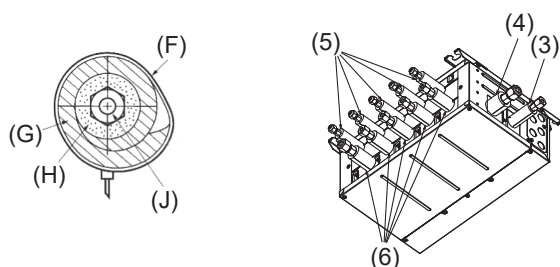
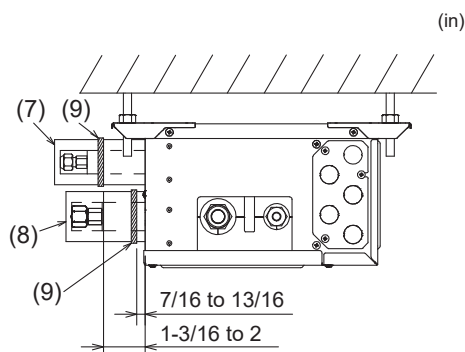

Fig. 7-3
Fig. 7-4
- Insulate the liquid and gas pipes of the Branch box by attaching the heat-resistant polyethylene foam tightly around them. (Fig. 7-3) Otherwise, a burn during pipe connection work or water leakage due to condensation on pipes may result. If connected to wrong end connection numbers, it doesn't work normally.
- 5) Press the pipe covers (3) and (5) on the liquid piping against the unit and wrap to hold in place. (Fig. 7-3)
- 6) Press the pipe covers (4) and (6) on the gas piping against the unit and wrap to hold in place. (Fig. 7-3)
- 7) Apply the supplied bands (9) at a position 7/16-13/16 in (10 - 20 mm) from each end of the pipe covers ((3)(4)(5)(6)).
- 8) If the indoor unit is not connected, fit the supplied pipe covers (with caps, (7) and (8)) to the Branch box refrigerant piping connections against the unit to prevent condensation dripping from the pipes. (Fig. 7-4)
- 9) Clamp the pipe covers ((7)(8)) in place with the supplied bands (9).
## 7.2. Handling of ports that are not connected to outdoor unit (Fig. 7-4)